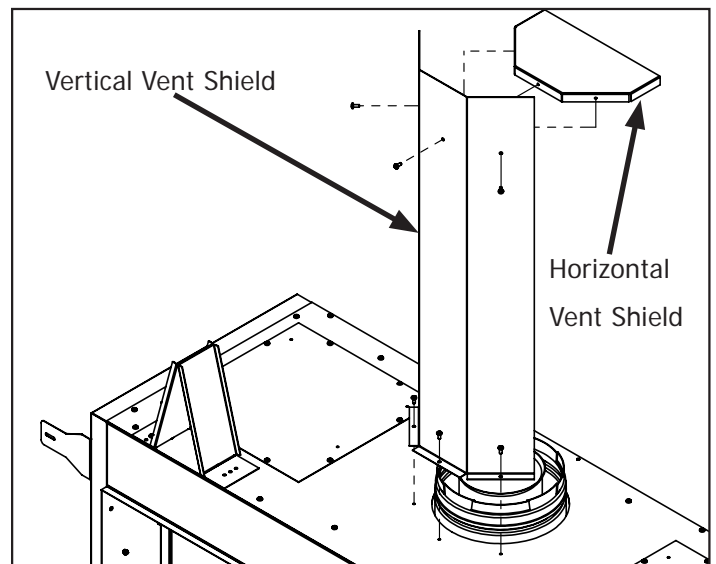

Figure 30: Vent Shielding Install
**IMPORTANT:** All installations must include the vertical vent shield. The horizontal vent shield is only installed if the fireplace is horizontally terminated with the minimum vertical rise of 12". If more than 12" of vertical rise is used in the vent configuration no horizontal shield is needed. See Figure 30 for shield install. Screws are pre-installed in cabinet and horizontal vent shield. Use a T-20 screwdriver or drill driver to remove screws then install shields.